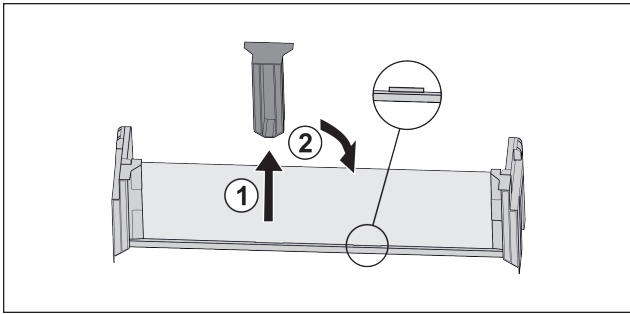

Fig. 101
- ▶ Pull off the middle holder Fig. 101 (1).
- ▶ Insert the middle holder in the second position Fig. 101 (2).